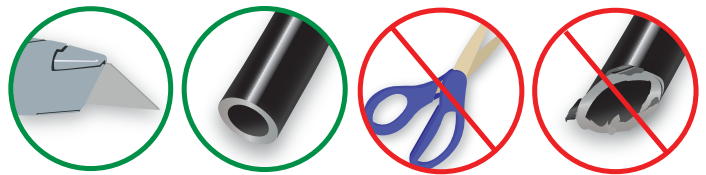

fig. 9
1. Cut the air line in half. Make clean, square cuts with a razor blade or hose cutter (Fig. 9). Do not use scissors or wire cutters.